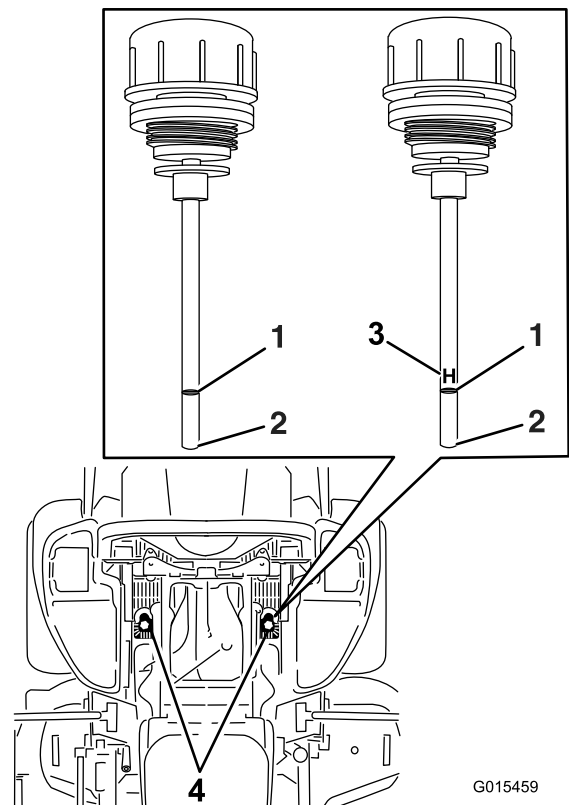

Figure 94
6. Clean the area around the dipsticks of the hydraulic system reservoirs (Figure 94).
7. Remove 1 dipstick from the hydraulic reservoir (Figure 94).
9. Remove the dipstick and look at the end (Figure 94).